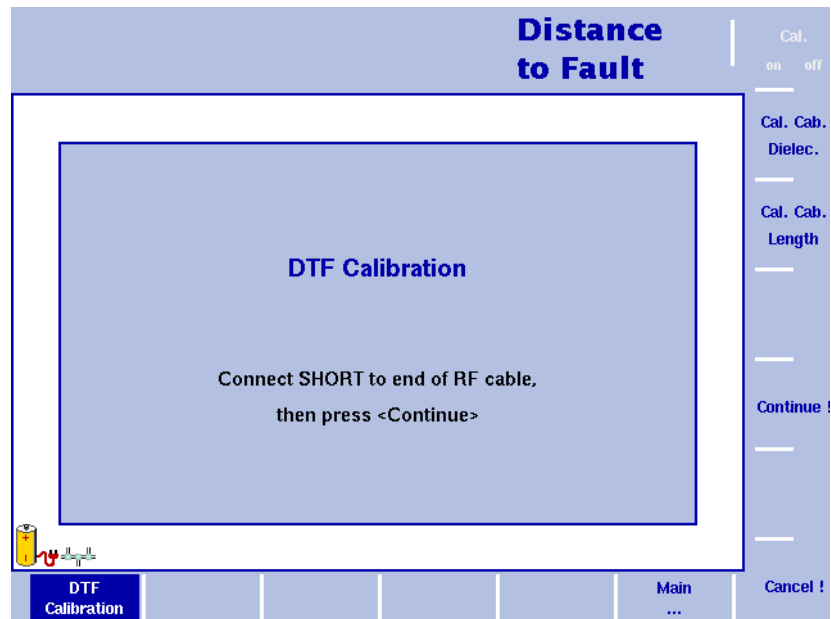

Figure 48 Distance to fault Calibration menu
- 5 The 9102 will guide you through the calibration process by onscreen messages as shown in Figure 48. When prompted as shown connect the calibration set to the test port extension cable and press **Continue**. You can abort the calibration process by pressing the **Cancel !** softkey.